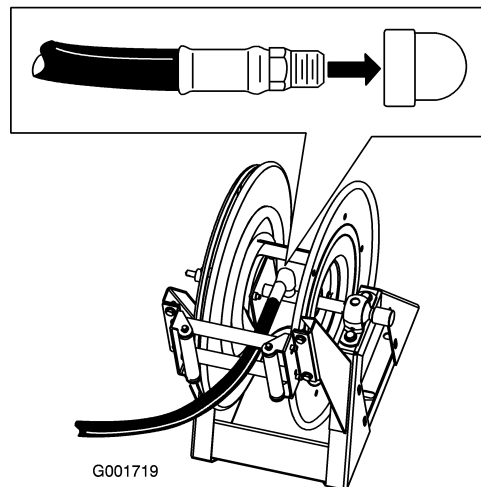

Figure 15
1. Wrap Teflon tape around the threads of the hose fitting on the long hose and install the fitting into the connecting tube on the reel (Figure 15).